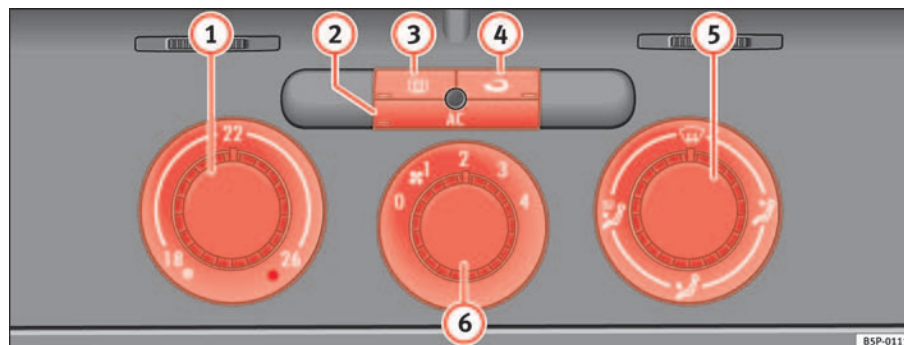

Fig. 123 On the dash panel: Climatic controls
- Using the controls ⇒ fig. 123 ① and ⑤ and the control ⑥ you can set the temperature, air distribution and the air flow.
- To switch a function on or off, press the appropriate button ②, ③ or ④. When the function is activated, the display window in the lower left of the button is lit.
- ① Temperature selector ⇒ page 148
- ② Button **AC** – cooling system on/off ⇒ page 148
- ③ Button – Rear window heating. The heating will be switched off automatically approximately 20 minutes after switching on. It can also be switched off beforehand by pushing the button.
- ④ Button – Air recirculation mode ⇒ page 149
- ⑤ Air distribution control ⇒ page 148
- ⑥ Blower switch. There are four speed settings for the air flow. The air flow should always be set at the lowest speed when driving slowly.
- Switch on the air conditioner using the button ⇒ page 147, fig. 123 .